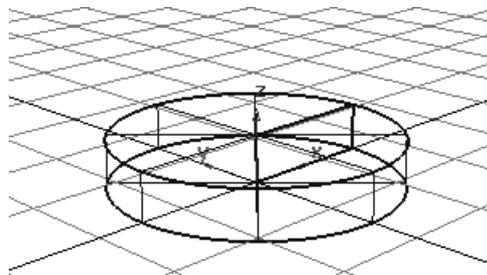

Figure 2-99 Base of the model after scaling
2. Enter **300, 300, 50** in the promptline and press ENTER; the base is scaled, as shown in Figure 2-99.